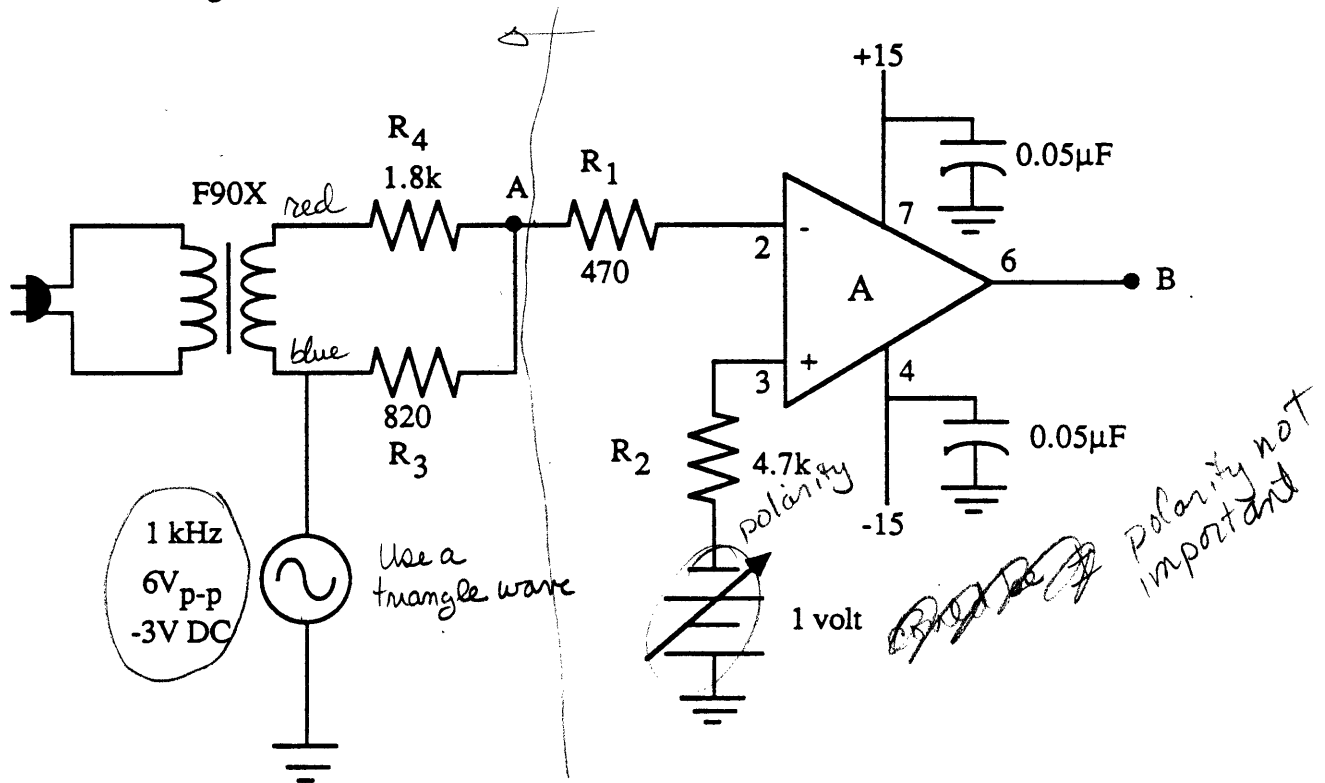
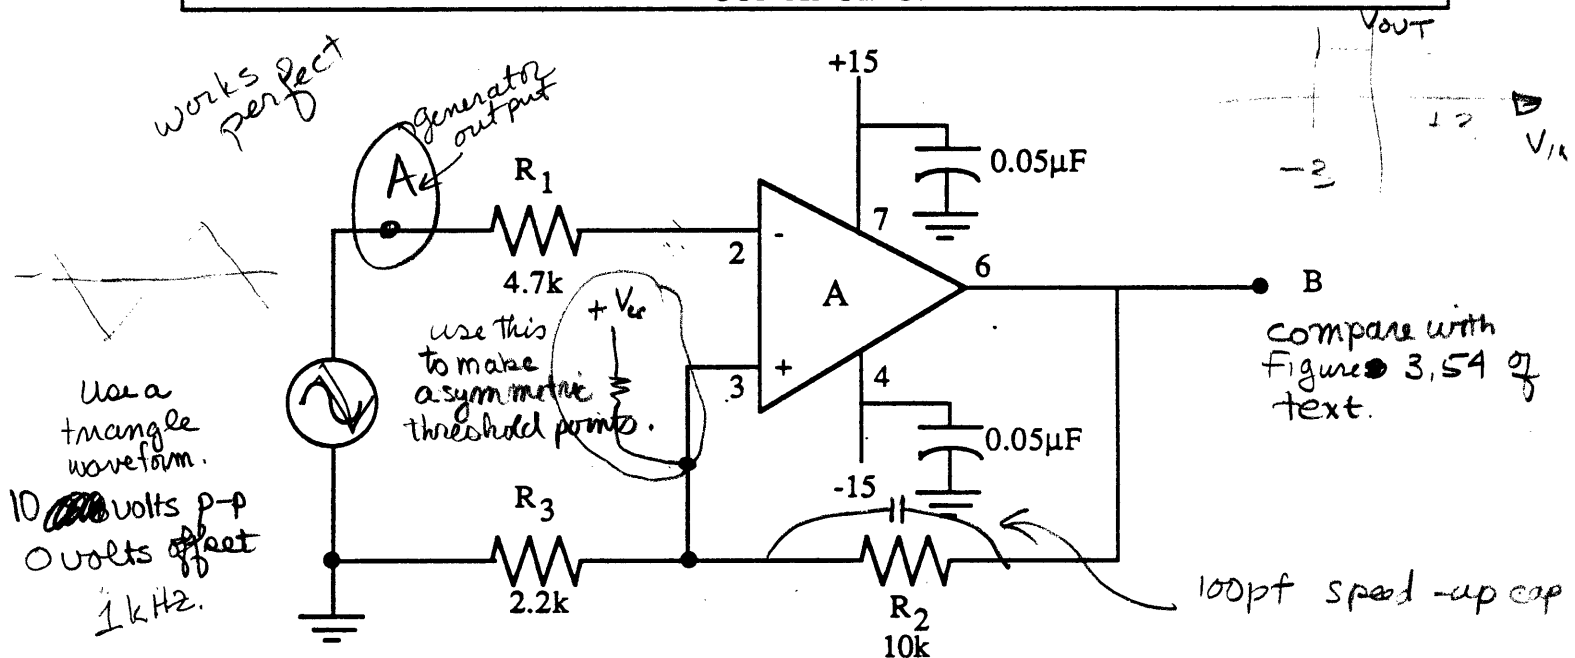

Figure 2 - Signal + "Noise" generator
Figure 3 - Schmitt trigger
- (1) Disconnect the signal generator from your circuit and adjust its output to that shown in Fig.2.
- (2) Build the circuit shown in Fig.2. Plug in the transformer. The transformer produces a sine wave at 60 Hz, which is added to the 1 KHz from the signal generator.
- (3) If the composite signal at A is not around 14 V_{p-p} you have not connected the circuit properly.
- (4) Display the waveforms at A and B and record them in Table 8.3 making special note of the phase difference between them. It will not be possible to get an absolutely stable trace on the oscilloscope.
- (5) Make note of exactly what takes place when the waveform at B changes state.
The amplifiers you built in Lab 6 and 7 used negative feedback - a resistor feeding the output signal back to the inverting input. By using positive feedback - a resistor feeding the output back to the non-inverting input - the two switching points can be moved further apart. Consider the circuit of Fig.3 and assume that the input is zero, that the output is +15 V, and that $R_2 = R_3$. R_2 and R_3 set the voltage at the non-inverting input to +7.5 V, $(V_{IN^+} - V_{IN^-}) > 0$, and the output is indeed forced to +15 V. If we raise the input to +7.50015 V, then $A(V_{IN^+} - V_{IN^-}) = -15$ V and the output switches to -15 V. This changes the voltage at the non-inverting input to -7.5 V which makes $(V_{IN^+} - V_{IN^-})$ very negative, maintaining the output at -15 V. The output will stay at -15 V until the input drops to -7.50015 V which will make $A(V_{IN^+} - V_{IN^-}) = +15$ V, setting the output to +15 V, setting the non-inverting input to +7.5 V. This makes $(V_{IN^+} - V_{IN^-})$ very positive, maintaining the output at +15 V. We can summarize the operation of the circuit by saying that, when the input goes above the upper switching point, the output will go negative and stay negative until the input goes below the lower switching point. This characteristic is called "hysteresis" and this type of circuit is called a "Schmitt trigger".
- (1) Build the Schmitt trigger circuit of Fig. 3 with $R_2 = 10K$ and $R_3 = 2.2K$.
- (2) Display points A and B simultaneously on the oscilloscope and record each waveform in Table 8.4, i.e., use two traces.
- (3) Carefully note their phase difference and the two switching points.
- (4) Slowly vary the DC offset between +3 V and -3 V and observe what happens at point B.
1. (a) What are the two switching points? *for the circuit of Figure 2?*
- ② (a) Describe the input waveform at point A in Figure 2.
(Data the circuit of Figure 2 for the circuit of Figure 3)
(b) How is the output different from that seen in ~~Figure 3~~ *the circuit of Figure 3?*